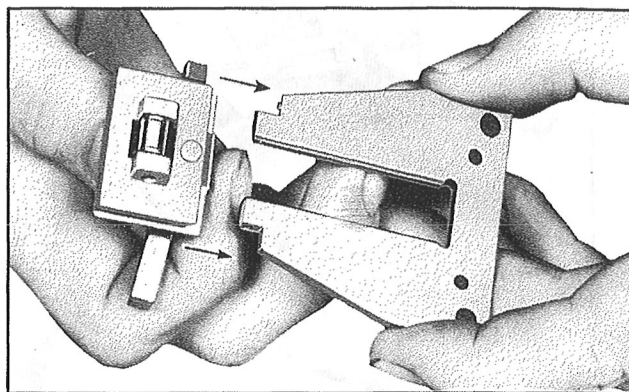

Figure 206—Installation of the Governor Carriage
*Step 6.*—Assemble the carriage on the ways plate with the carriage shoe toward the closed end of the ways plate, as shown in Figure 206. Facing the open end of the ways plate with the carriage shoe underneath, insert the stop pin from right to left.